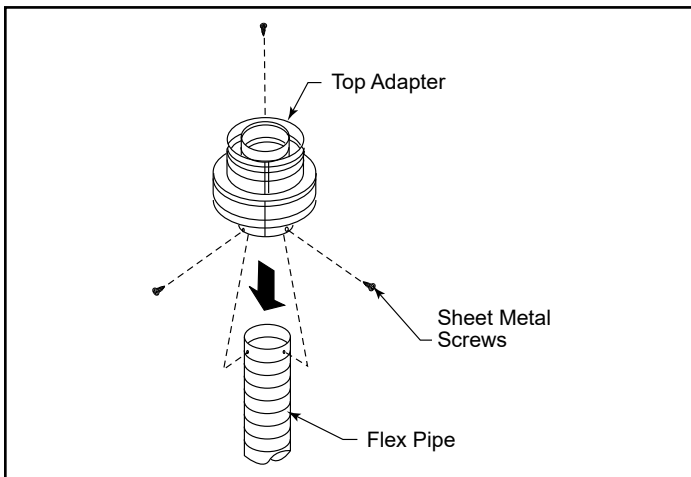

Figure 3.45
3. Connect the end of the flex pipe section to the underside of the cap adapter you have selected using three (3) sheet metal screws, Figure 3.45.